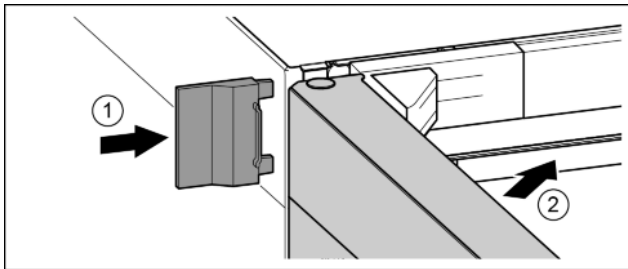

Fig. 24
- ▶ Push the external cover on. Fig. 24 (1)
- ▶ Close the upper door. Fig. 24 (2)